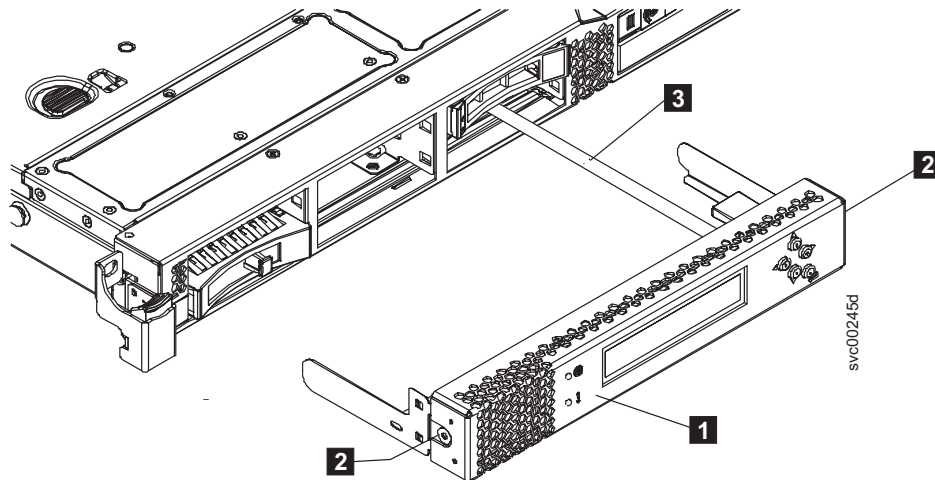

Figure 72. Service controller for the 2145-CG8 or 2145-CF8 with attached USB cable
6. Gently press both release buttons, shown by **2** in Figure 72 on page 86, and release the catch while pulling gently forward on the service controller.